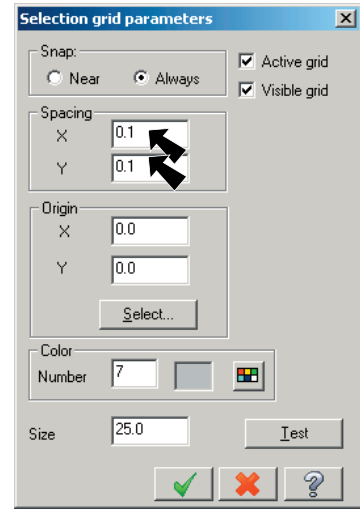

Fig. 8
Step 4. Set: **X and Y Spacing to .1** and click OK , **Fig. 8**.